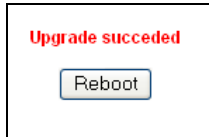

Figure 38 Reboot
2. Locate the Upgrade firmware and click Install, then click Start Upgrade. The firmware upgrades. When the process finishes Figure 38 appears.